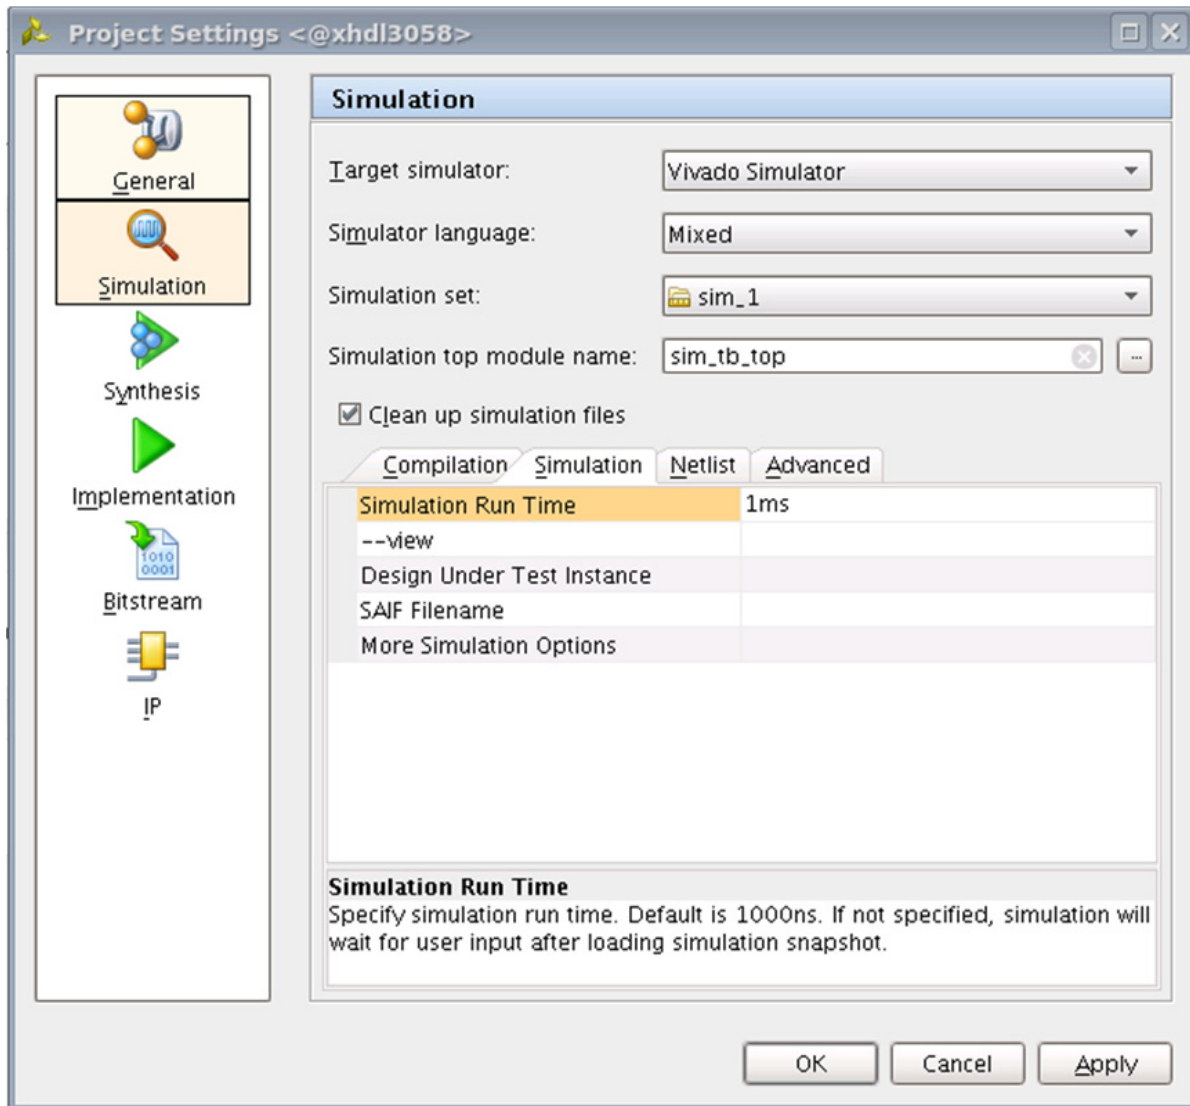

Figure 1-46: Simulation with Vivado Simulator
1. In **Open IP Example Design** Vivado project, under **Flow Navigator**, select **Simulation Settings** (Figure 1-46).
2. Under the **Simulation** tab as shown in Figure 1-46, set the **Simulation Run Time** as 1 ms (there are simulation RTL directives which stop the simulation after certain period of time, which is far less than 1 ms). Apply the settings and select **OK**.
- b. Under the **Simulation** tab, set the **Simulation Run Time** to 1 ms (there are simulation RTL directives which stop the simulation after certain period of time, which is far less than 1 ms), set **More Simulation Options** to **-novopt** as shown in Figure 1-46.